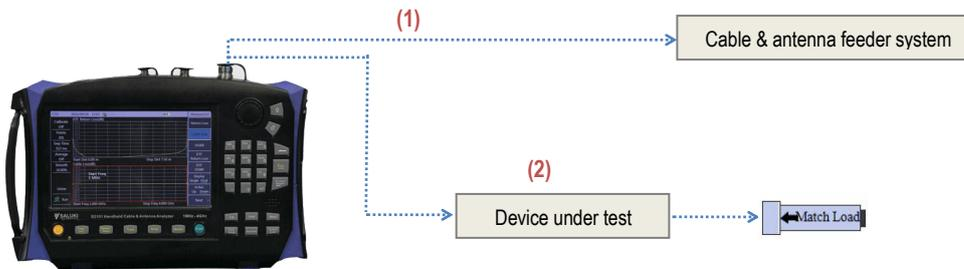

Figure 3.4 Connection method for Return Loss/VSWR Measurement
Return Loss/Voltage Standing Wave Ratio (VSWR) is a representation of the reflection characteristic. In engineering applications, this Analyzer can test the return loss or VSWR of single-port or double-port devices, which is separately shown as (1) and (2) in Figure 3.4.